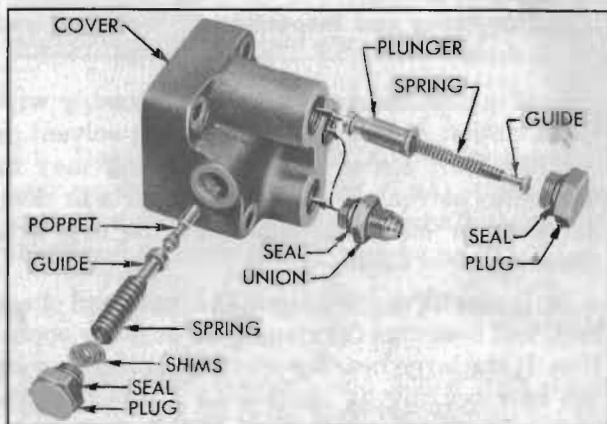

Figure 7-39—Relief and Flow Control Valve Parts
3. Remove plug and seal from rear end of pump cover and remove spring guide, spring, and flow control valve plunger from cover. See figure 7-39.
4. Remove plug and seal from side of pump cover and remove shims, spring, spring guide, and relief valve poppet from cover. See figure 7-39. *Be careful not to lose any of the shims.*